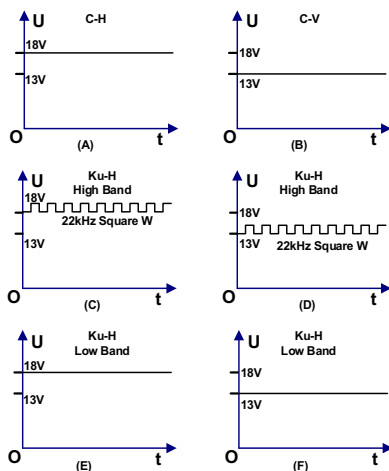

Figure 5-69 Satellite IF signal switch work principle
If user want to receive C band horizontal polarization signal, only use 18V signal, as the Figure 5-69(A) show. If user want to receive C band vertical polarization signal, only use 13V signal, as the Figure 5-69(B) show.
If user want to receive Ku band high band horizontal polarization signal, the 22kHz square-wave signal is superimposed on 18V signal, the 0/22kHz status is "On", the frequency is 22kHz, as the Figure 5-69(C) show. If user want to receive Ku band high band vertical polarization signal, the 22kHz square-wave signal is superimposed on 13V signal, the 0/22kHz status is "On", the frequency is 22kHz, as the Figure 5-69(D) show.
the frequency is 0kHz, as the Figure 5-69(E) show. If user want to receive Ku band low band vertical polarization signal, the 22kHz square-wave signal is not superimposed on 13V signal, the 0/22kHz status is “Off”, the frequency is 0kHz, as the Figure 5-69(F) show.